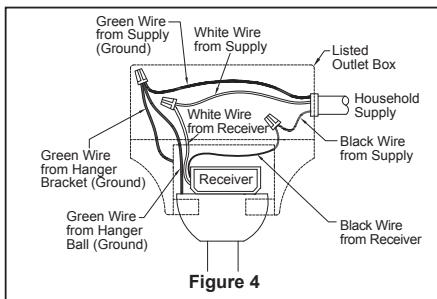

Figure 4
- ☐ 3. After connections have been made, slide the receiver into the hanger bracket, taking care not to pinch the wires and put the white and green leads to one side and the black leads towards the other side, the connection should be turned upward and carefully push leads into the outlet box. The wires should be spread apart with the grounded conductor and the equipment-grounding conductor on one side of the outlet box and the ungrounded conductor on the other side. (Figure 4)